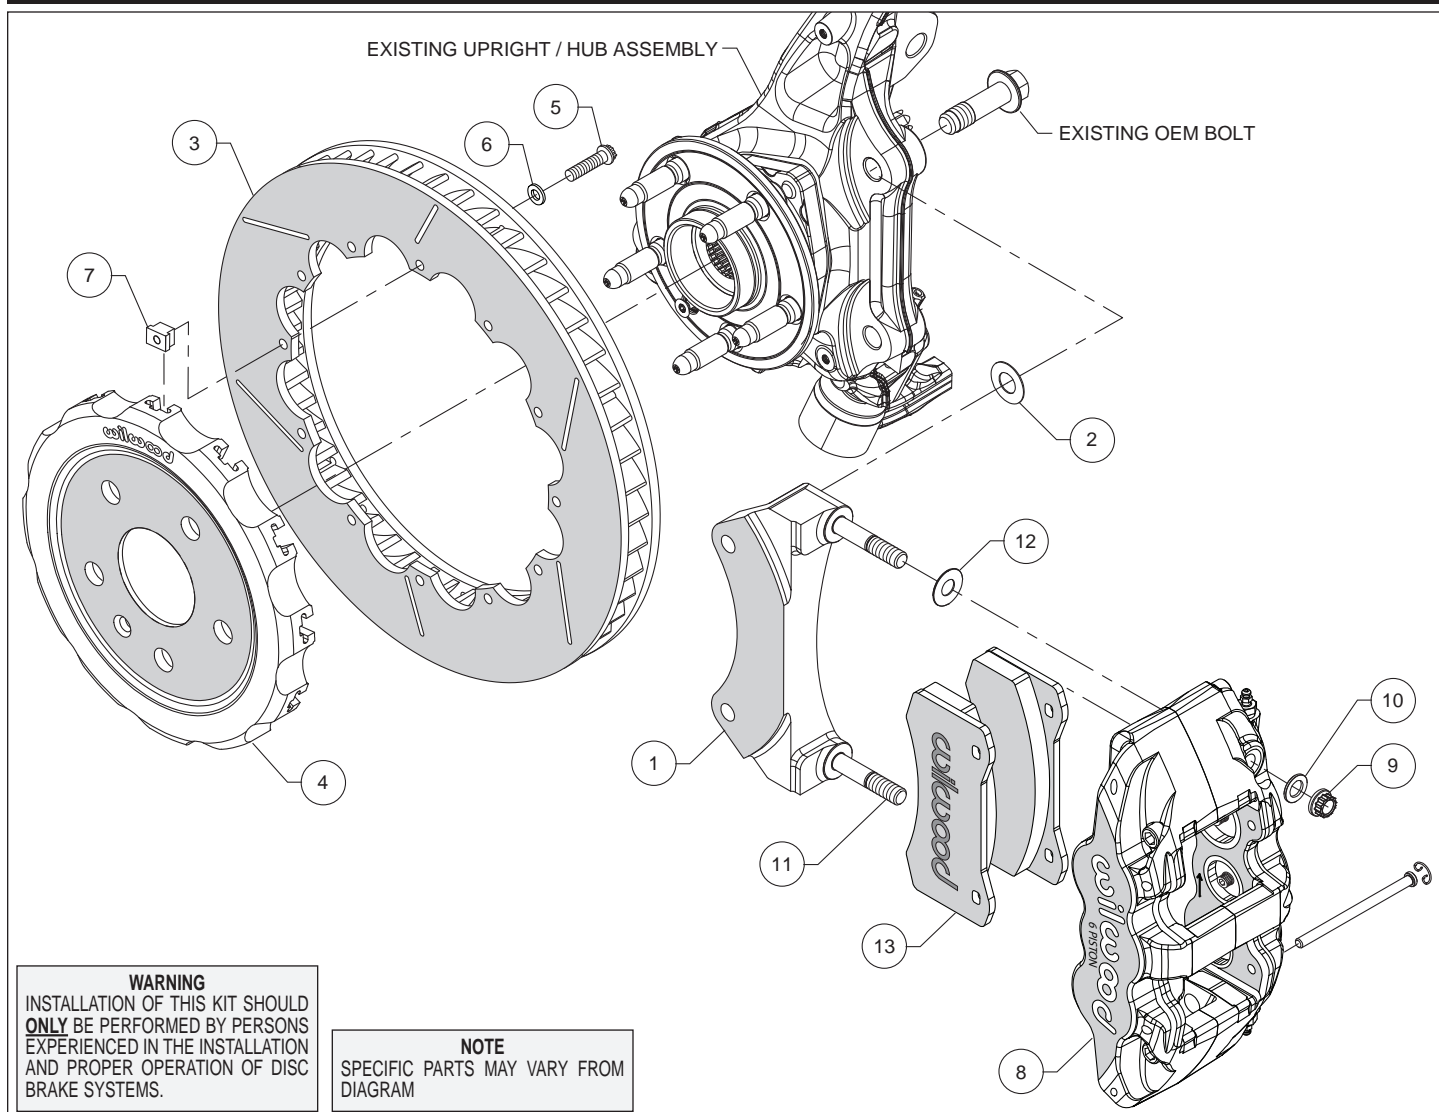
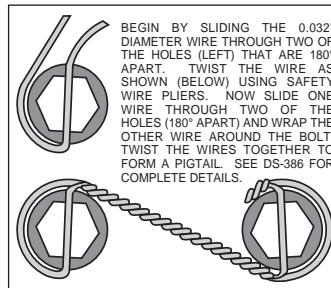

Figure 1. Typical Installation Configuration
Figure 4. Safety Wire Diagram
Assembly Instructions (numbers in parenthesis refer to the parts list and Figure 1 on the preceding pages):
- The caliper mount bracket (1) should initially be installed with clean, dry threads on the mounting bolts. Orient the bracket, as shown in Figure 1 and Photo 1, and install using saved OEM caliper mounting bolts. Initially place one .029" thick shim (2) on each bolt between the bracket and upright, Figure 1. Temporarily tighten the mounting bolts. **NOTE:** The bracket must fit squarely against the mount bosses on the upright. Inspect for interference from casting irregularities, machining ridges, burrs, etc. Later, after the caliper alignment has been checked, the mount bolts will be secured using red *Loctite*® 271.
- Orient the rotor (3) and the hat (4) as shown in Figure 1 and Photo 2. Attach rotor to hat using bolts (5), washers (6), and t-nuts (7), Figure 1. Follow additional instructions included with the bolt kit. Using an alternating sequence, apply red *Loctite*® 271 to the threads, and torque to 120 in-lbs. For an added measure of security, the bolts may be safety wired using standard 0.032 inch diameter stainless steel safety wire as shown in Figure 4. Refer to Wilwood's data sheet DS-386 (available at www.wilwood.com/Pdf/DataSheets/ds386.pdf) for complete safety wire installation instructions.
- NOTE:** This kit contains distinct right and left hand calipers that must be mounted in a specific direction, as described below. Lubricate the caliper mounting studs (11) with lightweight oil. Initially place one .030" thick shim (12) on each stud between the caliper and the bracket, as shown in Figure 1 and Photo 3. Mount the caliper (8) onto the bracket (1) using lock nuts (9) and washers (10), Figure 1. Temporarily tighten the lock nuts. Ensure that the caliper is mounted so the largest pistons are at the rotor exit end of the caliper, in relation to the direction of the rotor. View the rotor through the top opening of the caliper. The rotor should be centered in the caliper, Photo 4. If not, adjust by adding or subtracting shims (2) between the bracket and the upright. Always use the same amount of shims on each of the two mounting bolts. Once the caliper alignment is correct, remove the bracket mounting bolts one at a time, apply red *Loctite*® 271 to the threads, and torque to manufacturer's specifications.
- Remove the two pad retaining pins from the caliper (8) by carefully popping out the pin retaining clips and sliding out the pins. Insert the brake pads (13) into the caliper from the bottom, Figure 1 and Photo 5. With the friction material facing the rotor, secure the brake pads in place with the pad retaining pins and clips, Photo 6. Reinstall the caliper onto the caliper mounting bracket and temporarily tighten the lock nuts. Check that the top of the brake pad is flush with the outside diameter of the rotor, Photo 7. If not, adjust by adding or subtracting shims (12) between the caliper and the bracket. After the caliper pad height is set, torque the caliper lock nuts (9) to 47 ft-lb.